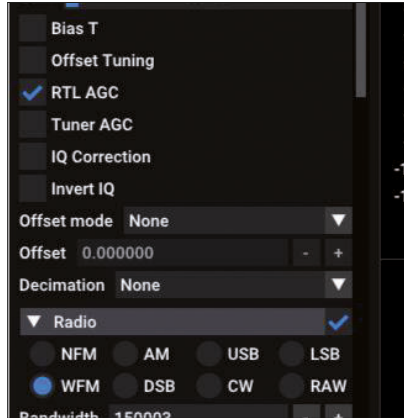

Figure 9.5: Enable WFM.
- Expand **Radio** and select **WFM** (Figure 9.5).